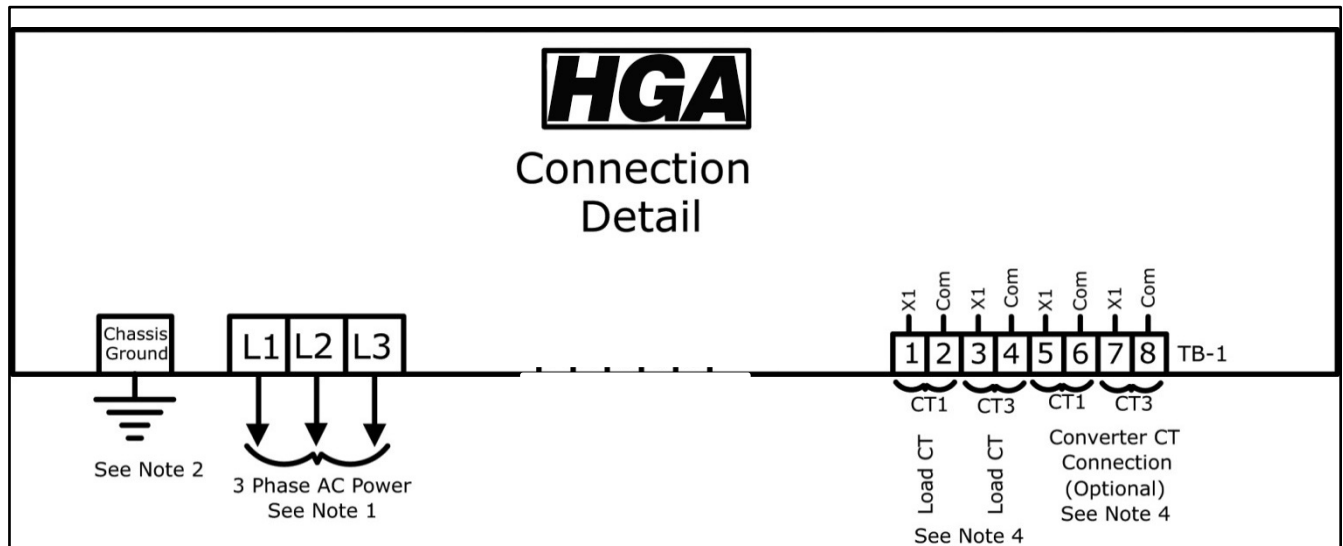
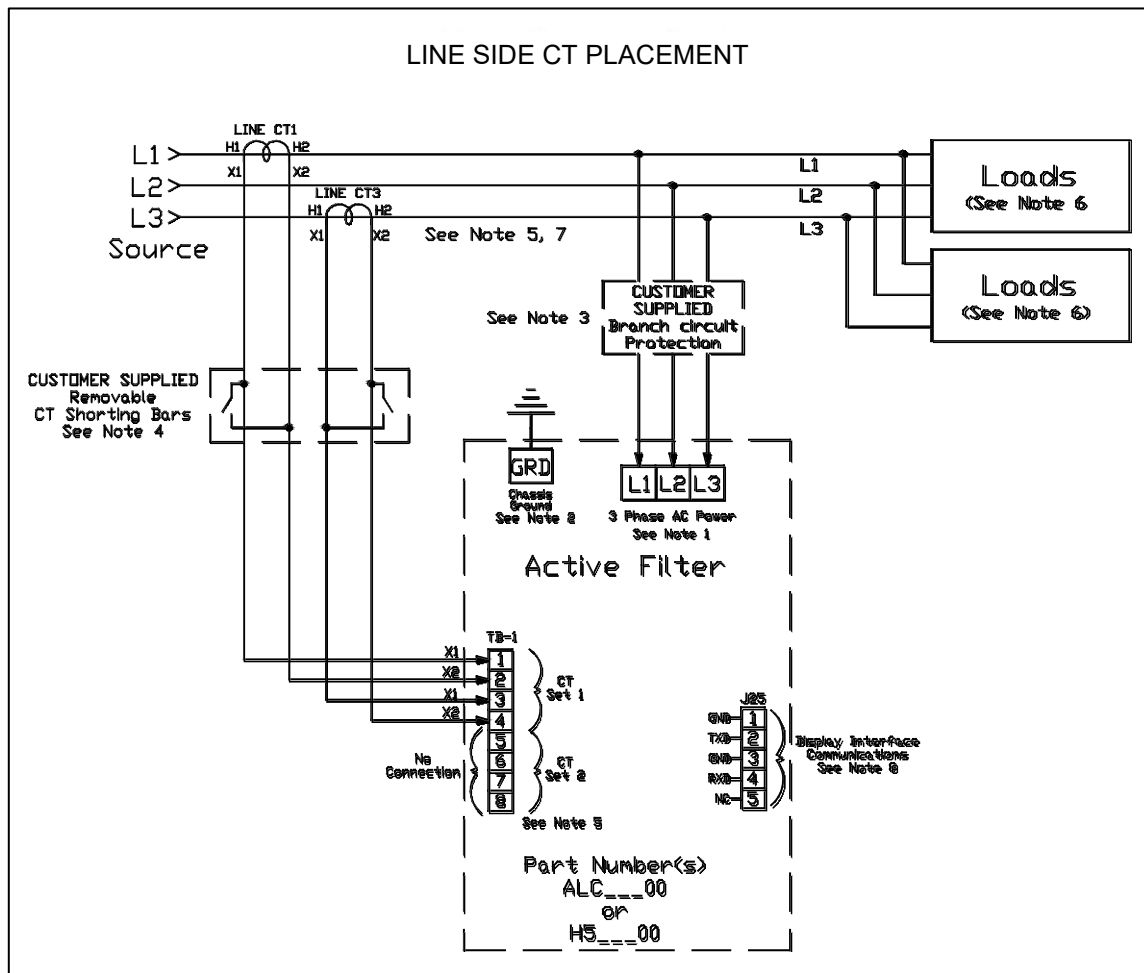

Figure 9: Load Connection Diagram
Figure 10: HGA 480 V Single Unit Line Side / Bus Applied Connection Diagram
It is necessary for the HGA to monitor the current in Phase “A” (L1) and Phase “C” (L3). Stand-alone HGA filters are designed for Line Side current transformer (CT) placement as shown in Figure 9. It is important that both CTs are on the same side of the HGA. The CTs should be centered around the conductor. Optional Load Side CT placement is available for single units as shown in Figure 10.